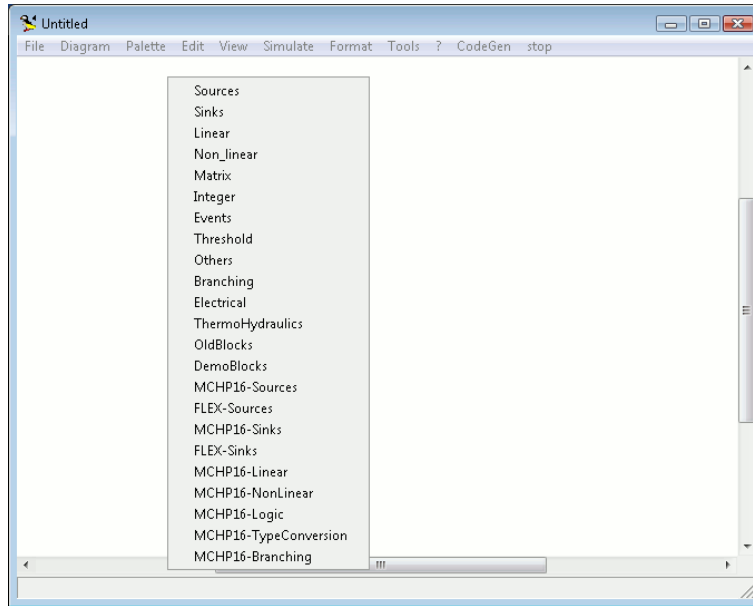

Figure 5.3: The Edit menu. Select Palettes
4. Select **Palettes** from the **Edit** menu, as showed in Figure 5.3.